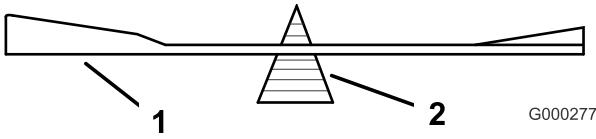
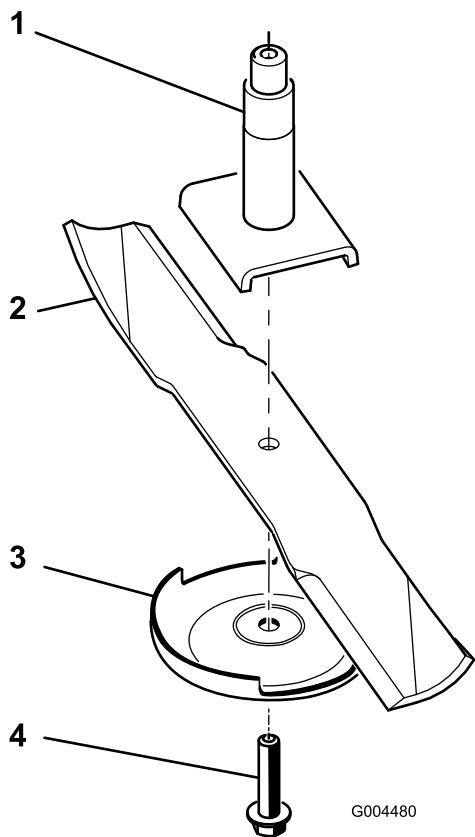

Figure 74
Figure 75
- Remove the blade bolt, anti-scalp plate, and blade from the spindle shaft (Figure 75).
- Check the balance of the blade by putting it on a blade balancer (Figure 74). If the blade stays in a horizontal position, the blade is balanced and can be used. If the blade is not balanced, file some metal off the end of the sail area only (Figure 75). Repeat this procedure until the blade is balanced.
- Install the blade onto the spindle shaft (Figure 75).
- Install the anti-scalp plate and blade bolt (Figure 75).